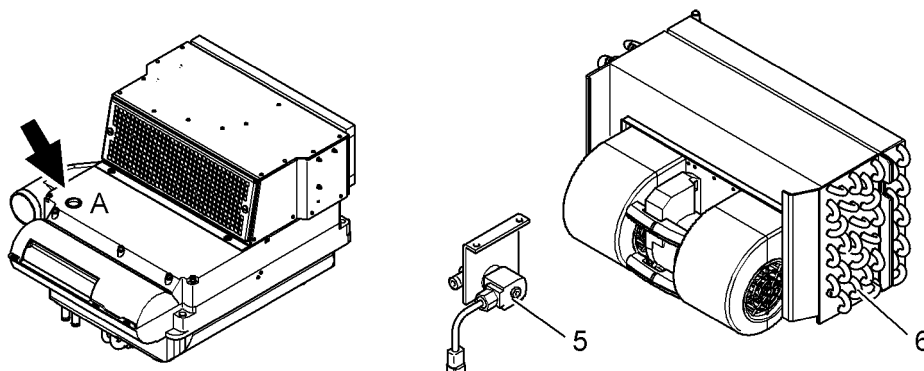

Fig. 5-71 Heating unit with solenoid valve
- Do not operate the machine, even briefly, without these filters, since the heat exchanger **6** will otherwise quickly become blocked (siehe Fig. 5-71).